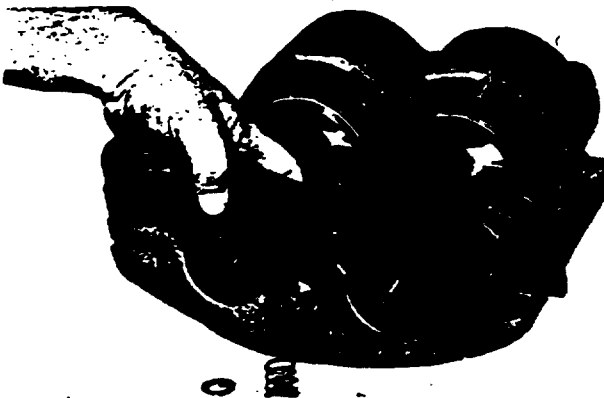

Figure 8-55. Installing Outer Shoe and Lining Assembly.
4. Install outer shoe and lining into caliper and install shoe hold-down spring and pin. See Figure 8-55.